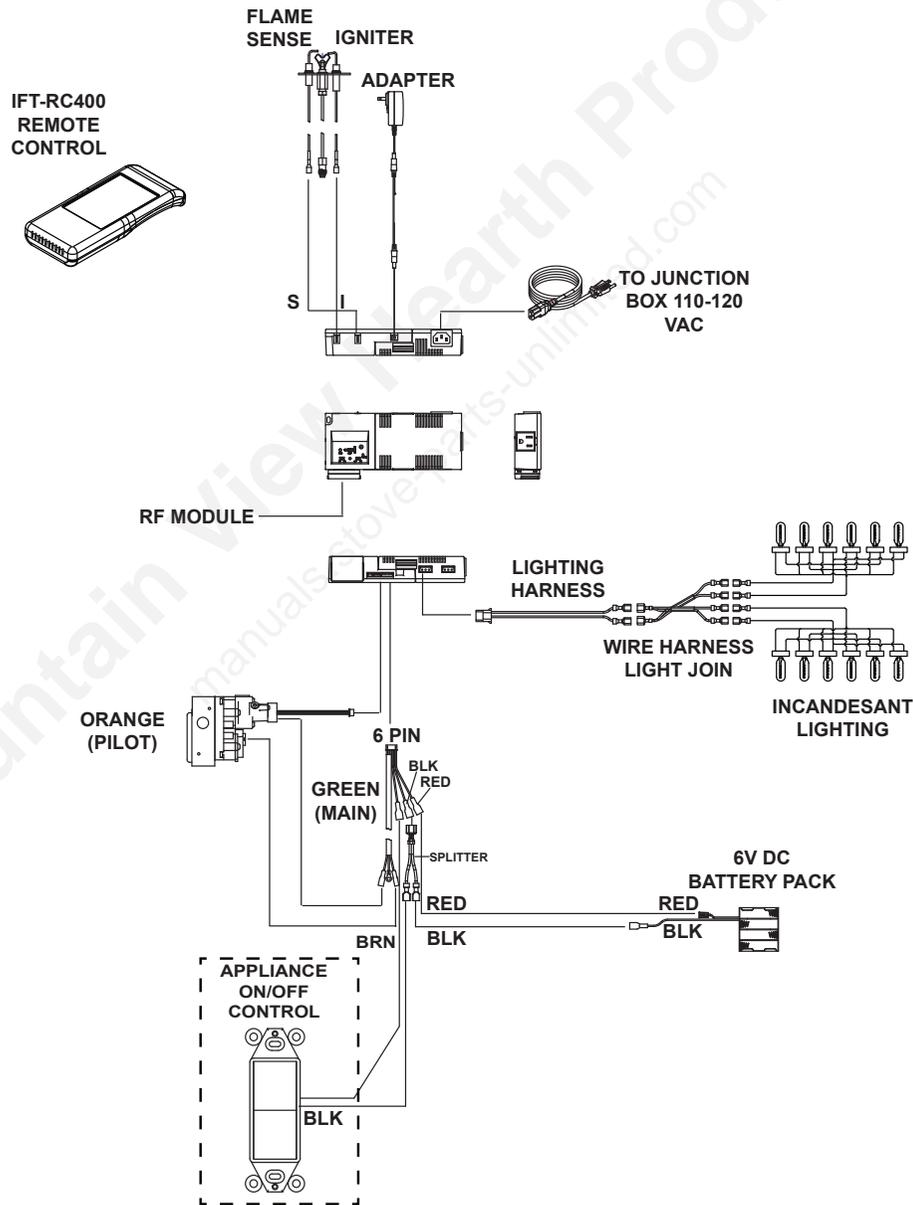

Figure 8.3 IntelliFire™ Touch Wiring Diagram without Power Vent
- Refer to Figure 8.3 or 8.4, IFT Wiring Diagram.